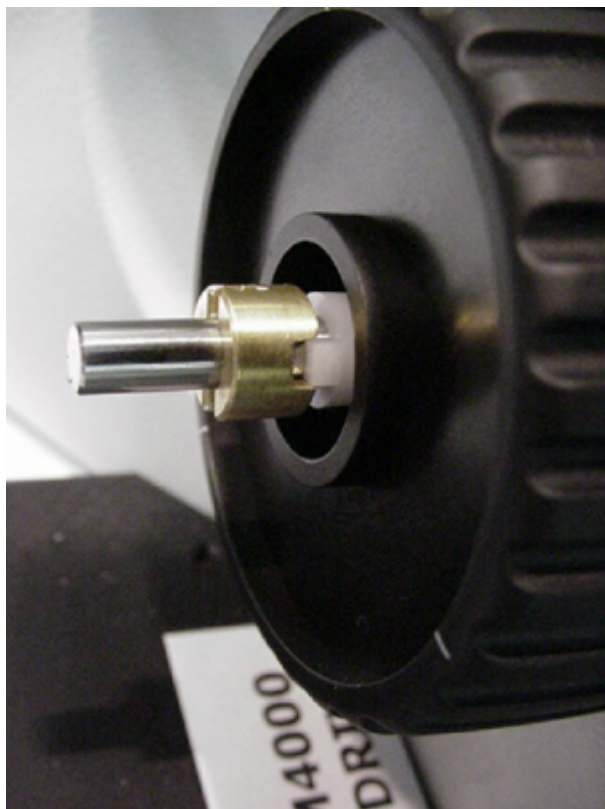

Figure 1: Use 1.5 mm Allen wrench to loosen setscrew to remove knob.
b) Slide the microscope fine focus knob over the shaft extension and secure it in place by tightening the setscrew loosened in figure 1.